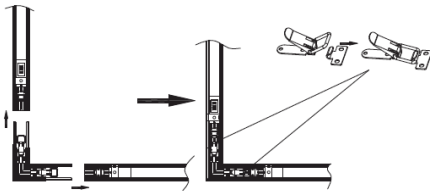

Fig. 2
2. Remove wiring compartment cover and insert the ALV fixture into each end of the inline shape connector. Lock by securing buckle latch (Fig. 2).